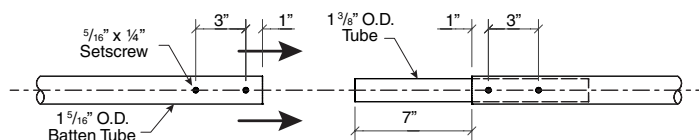
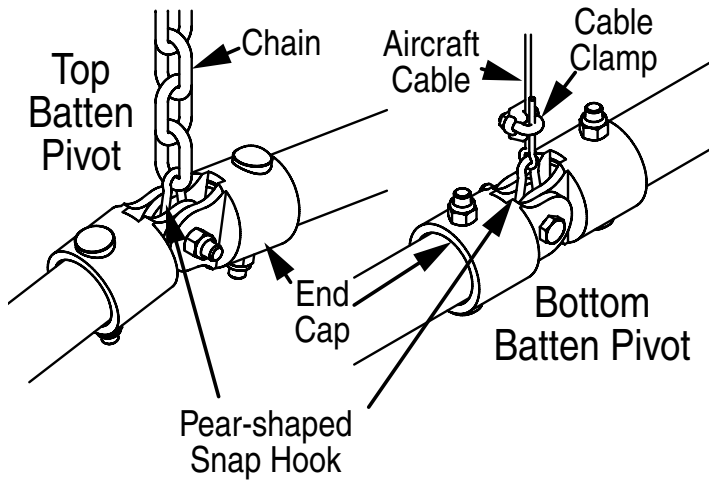

Figure 2
Figure 3
- ① Lay the curtain out with the top of the curtain close to the dangling aircraft cables.
- ② Slide $1\frac{5}{8}$ " top and bottom batten tubes into pocket one section at a time, assembling as you go. Use $1\frac{3}{8}$ " OD x 14" tube to connect section of batten tube. Splice should be installed so equal portions are inside tube that is being connected (see Fig. 3). Rotate batten to align the pre-drilled and tapped holes in batten. Secure with $\frac{5}{16}$ " x $\frac{1}{4}$ " set screws. (see Fig. 2).
- ④ Thread cables through grommets in curtain.
- ⑤ Slide bottom batten into bottom pocket one section at a time, assembling as you go. SEE BATTEN LAYOUT SHOP DRAWING.
- ⑥ At pivot points, pass cable through pear-shaped snap hooks. At other attachment points, cut a **small** slit in the upper part of the pocket and wrap cable once around 1 $\frac{5}{8}$ " bottom batten. Secure with cable clamps, and trim excess cable (see Fig. 3).